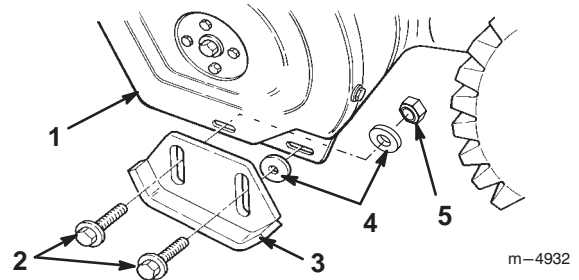

Figure 17
3. Remove the two flange bolts and flat washers that secure the ends of the scraper to the side plates (Fig. 17).
5. Insert a washer *between each skid and the side plate* (Fig. 17). Do not tighten the bolts.
7. Insert a washer and a locknut *behind (on the inside of) the side plate* (Fig. 17). Do not tighten the bolts.